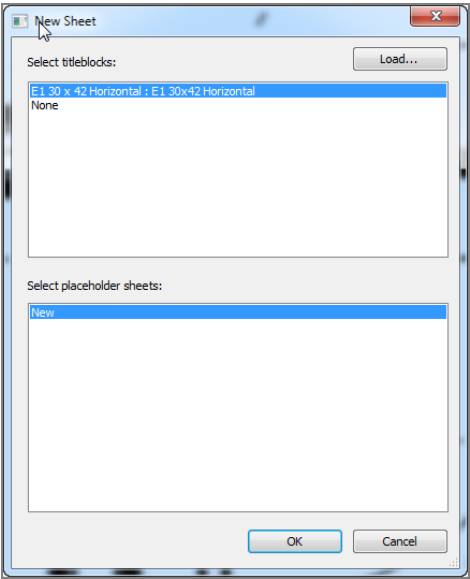

FIGURE 11.15: Using a sample title block
4. Select E1 30 × 42 Horizontal, as shown in Figure 11.15, and click OK.